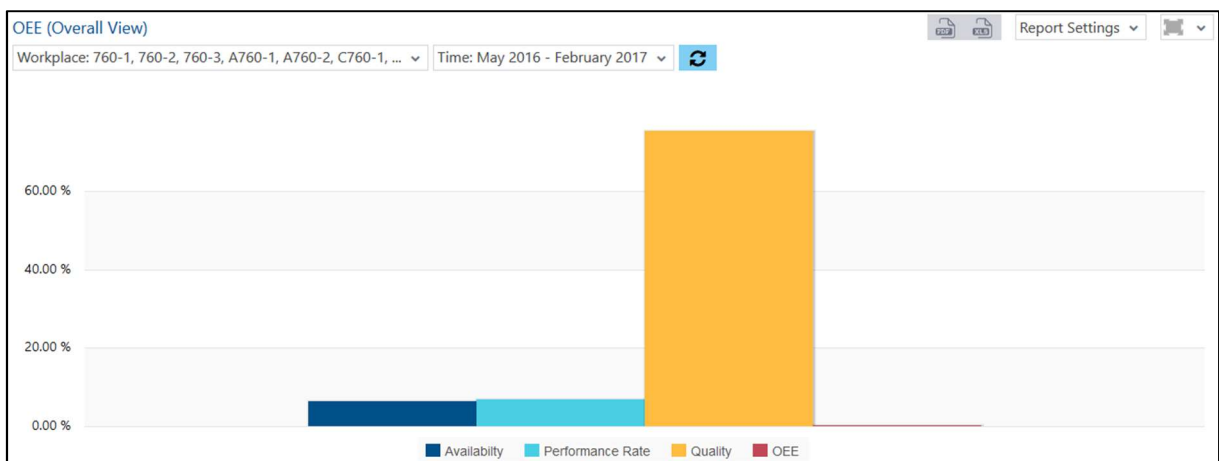

Fig. 39: OEE (Overall View) as a column chart
- OEE (Overall View) as a column chart (Fig. 39):